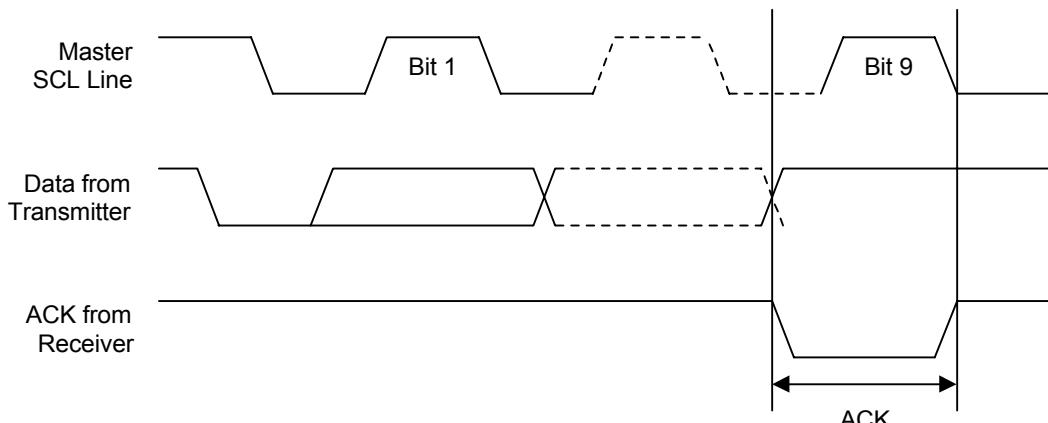

Figure 1-8. Acknowledge Response From Receiver
- ACK (Acknowledge): An ACK signal indicates that a data transfer is completed successfully. The transmitter (the master or the slave) releases the bus after transmitting eight bits. During the 9th clock, which the master generates, the receiver pulls the SDA line low to acknowledge that it successfully received the eight bits of data (see Figure 1-8). But the slave does not send an ACK if an internal write cycle is still in progress.